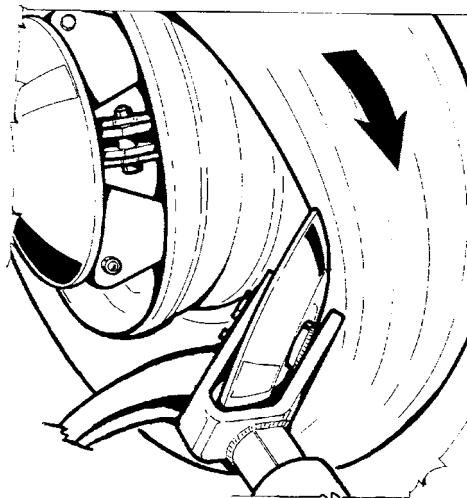

Fig.40
6. When loosening the inner bead be sure not to damage the valve stem (fig.40).